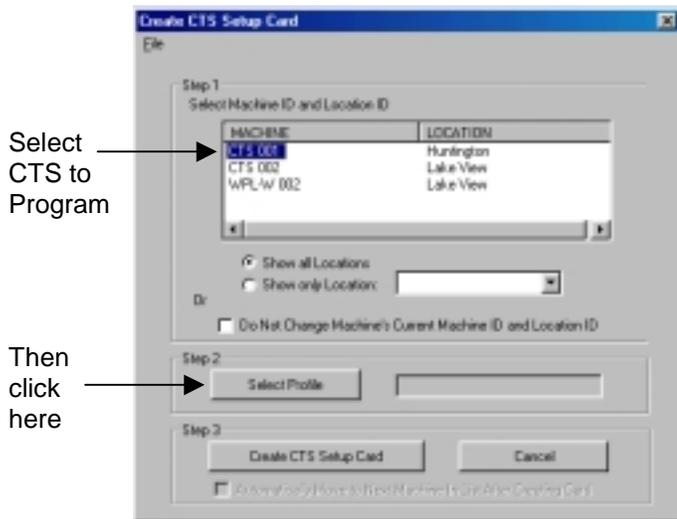

Figure 3.17 Select CTS to Program
3. In the Create CTS Setup Card window click on machine to setup (Figure 3.17).
4. Click the **Select Profile** button (Figure 3.17). Select the profile for the CTS that is being programmed, and click the **Select** button (Figure 3.18).